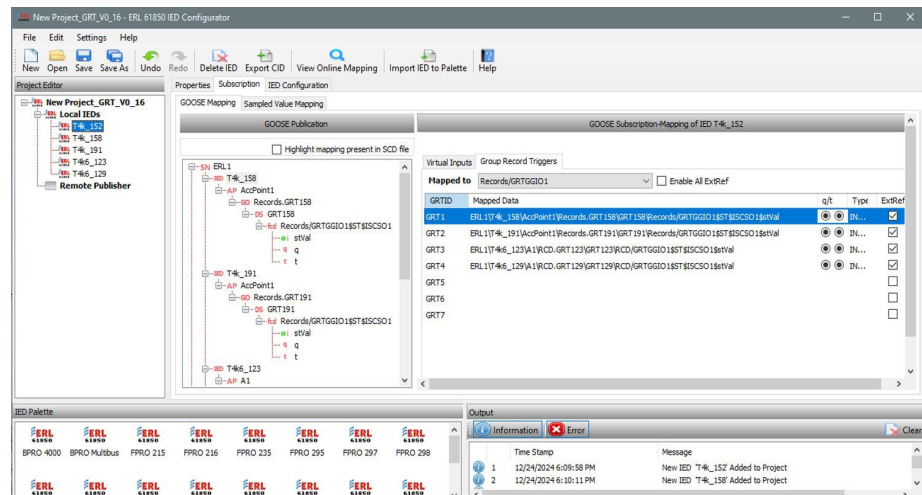

Figure 15.8: GRT Mapping
1. Add a new group IED entry by selecting **TESLA4000/SV/A Group Record Trigger Mode** under the Type pick-list (Figure 15.8).